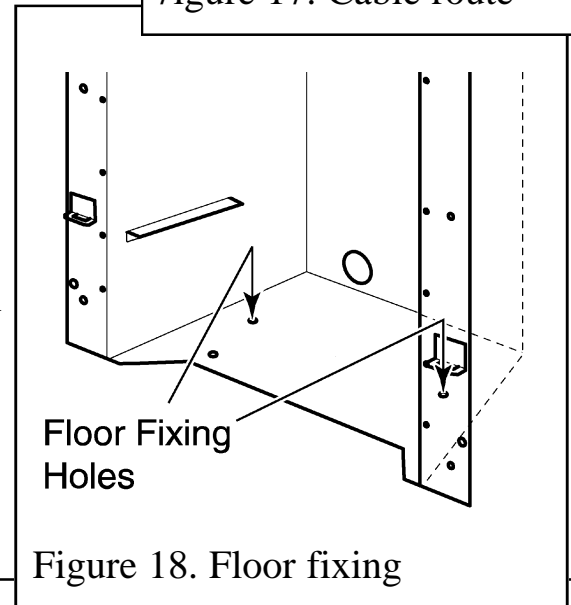

Figure 18. Floor fixing
8. Drill a hole into the fireplace floor through each of the two holes in the base of the hotbox using a no.12 masonry drill (See figure 18).